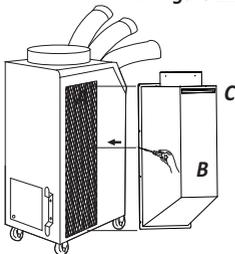

Figure 12
3. Install "B" which contains "C" by using driver with enclosed bolts(6EA) as Figure 12.